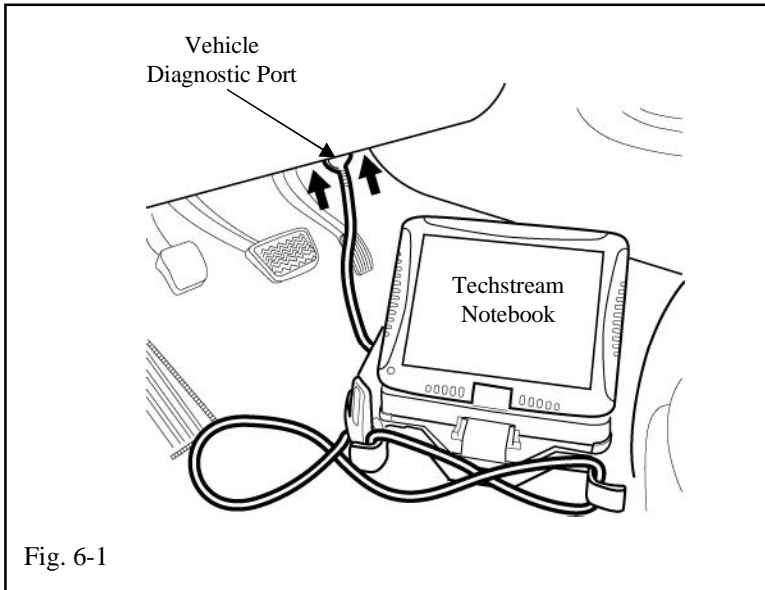

Fig. 6-1
- (a) Connect the Techstream Notebook to the Vehicles Diagnostic Port. (Fig. 6-1)